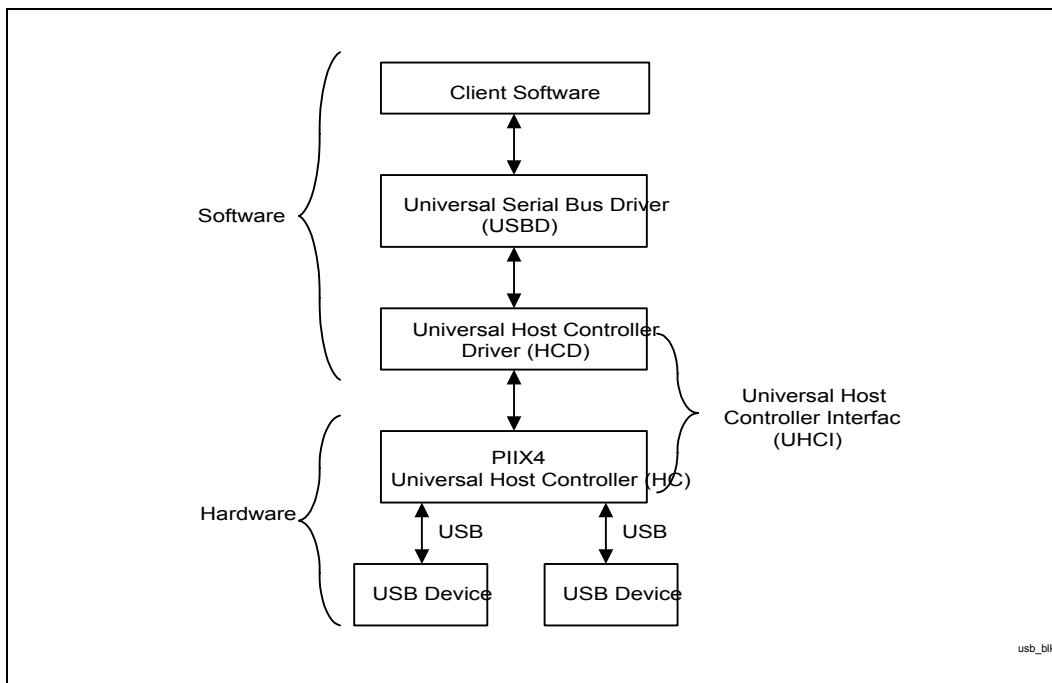

Figure 9. USB System Conceptual View
PIIX4 contains a USB Host Controller (HC). The Host Controller includes the root hub with two USB ports. This permits connection of two USB peripheral devices directly to PIIX4 without an external hub. If more devices are required, an external hub can be connected to either of the built-in ports. The USB's PCI configuration registers are located in function 2, PCI configuration space. The PIIX4 Host Controller completely supports the standard Universal Host Controller Interface (UHCI) and thus, takes advantage of the standard software drivers written to be compatible with UHCI. Figure 9 shows a conceptual view of a USB system. UHCI consists of two parts—Host Controller Driver (HCD) and Host Controller (HC). The Host Controller interfaces to the USB system software in the host via the HCD. The HCD software manages the Host Controller operation and is responsible for scheduling the traffic on USB by posting and maintaining transactions in system memory. HCD is part of the system software and is typically provided by the operating system vendor. HCD provides the software layer between the PIIX4's Host Controller and the USBD software layer (also located in the operating system). The UHCI's HCD software interprets requests from the USBD and builds Frame List, Transfer Descriptor, Queue Head, and data buffer data structures for the Host Controller. The data structures are built in system memory and contain all necessary information to provide end-to-end communication between client software in the host and devices on the USB.